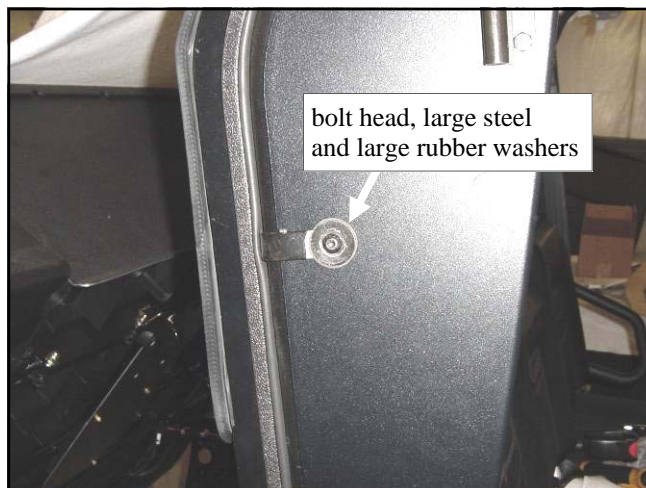

Fig. 6.8 (view from rear passenger's side)
6.8 Per fig. 6.8, attach the P-clamp to the hinge plate assembly using the following: one 5/16-18 x 1" long button head bolt, one large steel washer, one large rubber washer, one small steel washer, and one 5/16-18 locknut. The large rubber washer is to be up against the painted surface for weather sealing. The bolt head is to be outboard as shown. The small steel washer and the locknut are to be inboard. Do not tighten bolt.